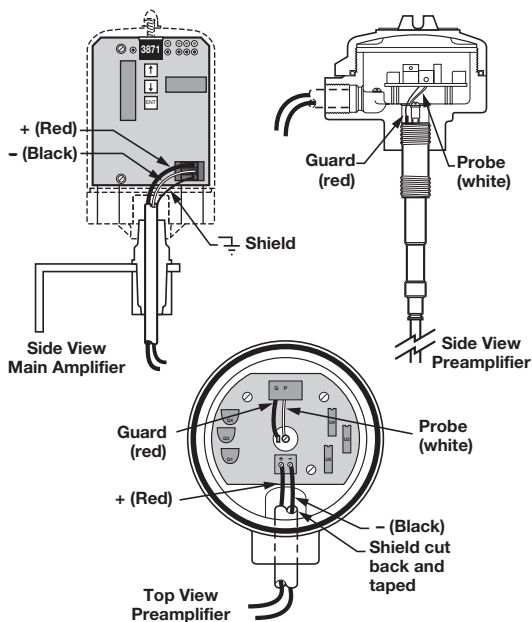

Figure 12
3. If using a guarded probe, attach the red wire from the probe to the connection on preamplifier – see Figure 12.